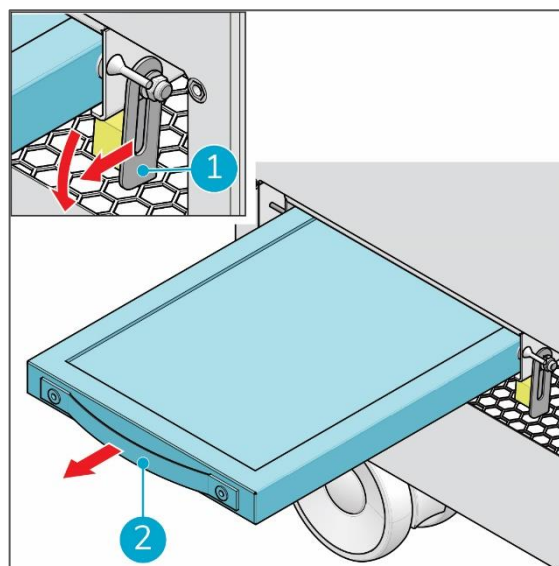

Figure 18
3. Pull the filter lock (Figure 18, pos. 1) forward and push it down.
4. Take the pre-filter by the handle on the front of the filter (Figure 18, pos. 2) and carefully pull it out of the compartment.